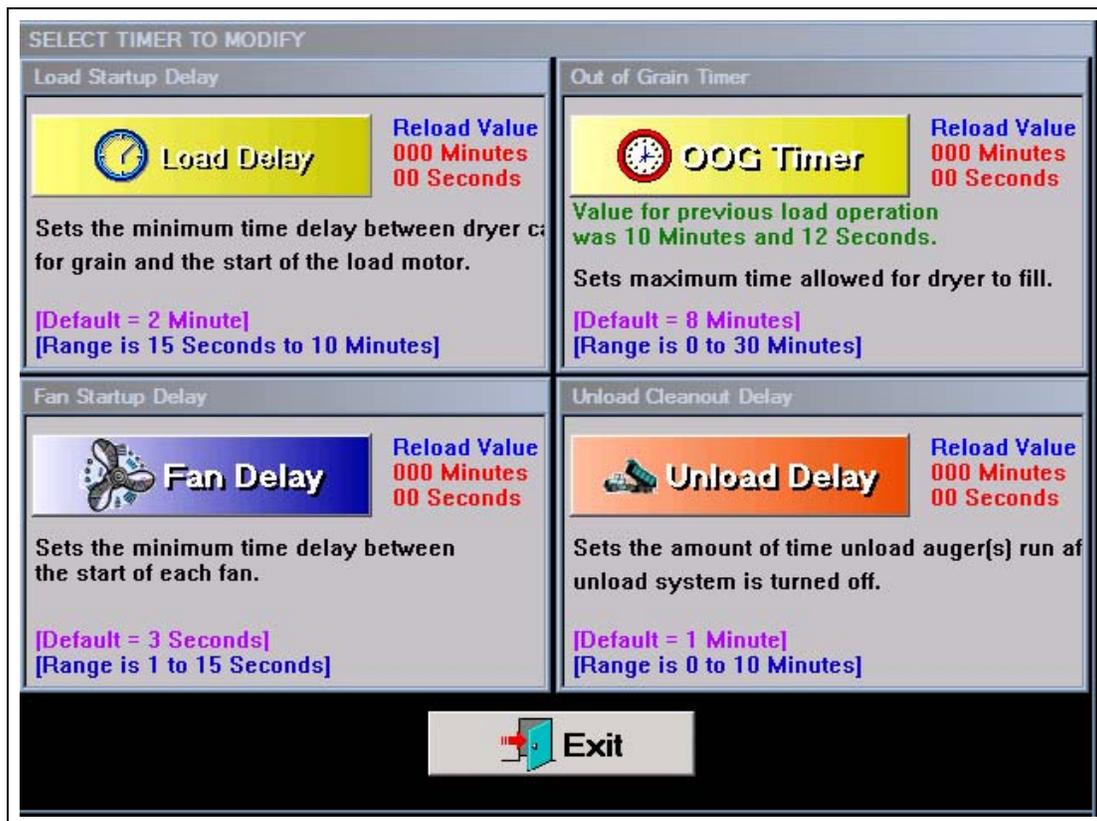

Figure 8A
Setting the timers for the vision dryer is a simple procedure. To set the timers touch the  button at the bottom of Operation screen. A new screen will appear called the Select Timers to Modify screen. (See Figure 8A on Page 38.) As you can see there are four (4) timers that you can modify: